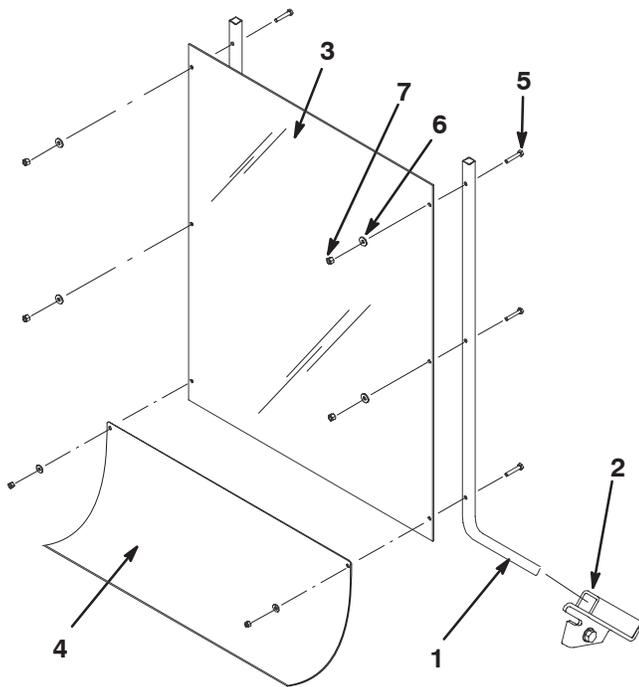

Figure 5
1. Slide the shield supports into the pockets in the shield brackets on the traction unit (Fig. 5).
2. Assemble the shield and flexible skirt to the shield supports as illustrated in Figure 5, using 6 bolts ($\frac{1}{4}$ x $1\frac{1}{2}$ in.), washers, and locknuts ($\frac{1}{4}$ in.).